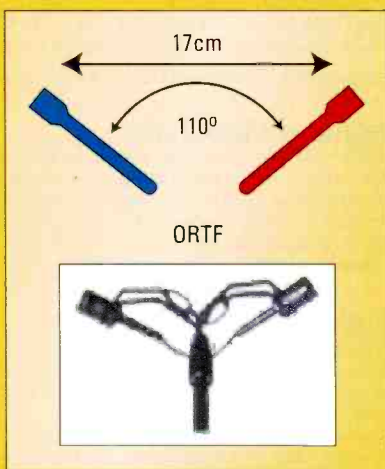

Figure 1. The ORTF coincident microphone technique
**A**void spacing microphones far apart for ambience pickup. Try a simple ORTF (Office de Radiodiffusion Television Francais) coincident microphone technique, or X-Y stereo pair to pickup crowd response. (See Figures 1 and 2.)